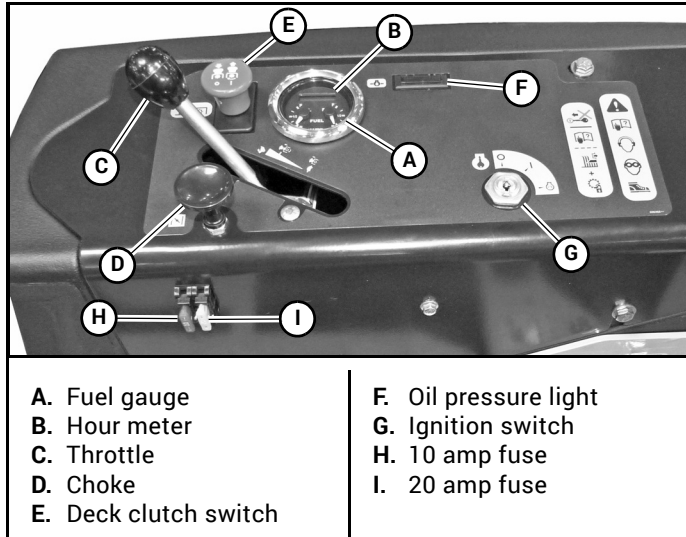
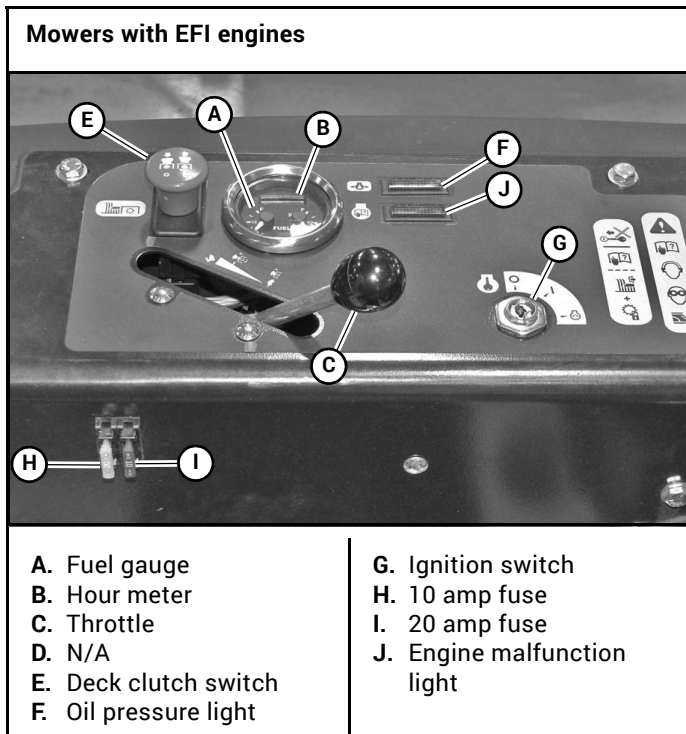
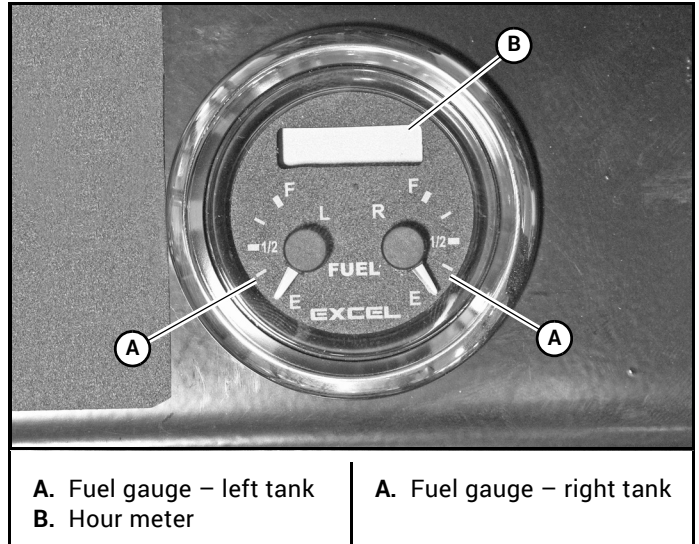

Figure 3-1
Figure 3-2
Figure 3-3
- A. **Fuel tank gauge** (Figure 3-1, Figure 3-2 & Figure 3-3) – this gauge shows the fuel level for each fuel tank. The right gauge shows the fuel in the right tank and the left gauge indicates the fuel level in the left fuel tank.
- B. **Electronic hour meter** (Figure 3-1, Figure 3-2 & Figure 3-3) – registers 1/10 hour increments up to
- C. **Throttle control** (Figure 3-1 & Figure 3-2) – a cable is linked to the engine throttle for controlling engine speed. Move the lever forward to increase engine rpm, move the lever rearward to decrease engine rpm.
- D. **Choke control** (Figure 3-1) – a cable is linked to manually operate the engine choke. When the lever is in the down position, the choke is in the “OFF” (run) position. When the knob is pulled up, the choke is in the “ON” (start) position. Do not operate the machine in the “ON” (start) position.
- E. **Deck clutch switch** (Figure 3-1 & Figure 3-2) – this switch engages the deck. Pull the switch up to engage and push switch down to disengage the clutch.
- F. **Oil pressure light** (Figure 3-1 & Figure 3-2) – this light comes on when the ignition switch is placed in the “RUN” position and stays lit until the engine is running and a safe oil pressure is developed. If the light comes on during operation, shut the engine off immediately and locate and correct the problem.
- G. **Ignition switch** (Figure 3-1 & Figure 3-2) – a three position switch: “OFF”, “RUN”, and “START”. With key inserted, rotate it clockwise to the “START” position; release the key when the engine starts, and the switch will automatically return to the “RUN” position.
- H. **10 amp fuse** (Figure 3-1 & Figure 3-2) – Ignition system & Safety system - 10 amp, blade-type.
- I. **20 amp fuse** (Figure 3-1 & Figure 3-2) – Controller - 20 amp, blade-type.
- J. **Engine malfunction light (Figure 3-2)** – this light comes on when there has been an engine malfunction on mowers with electronic fuel injected engines. Refer to the engine owner’s manual for more details.